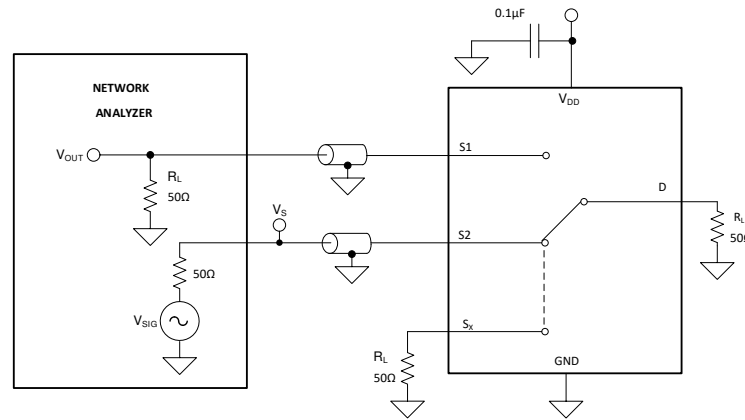

图 8-9. Channel-to-Channel Crosstalk Measurement Setup
Crosstalk is defined as the ratio of the signal at the drain pin (D) of a different channel, when a signal is applied at the source pin (S_x) of an on-channel. 图 8-9 shows the setup used to measure, and the equation used to compute crosstalk.